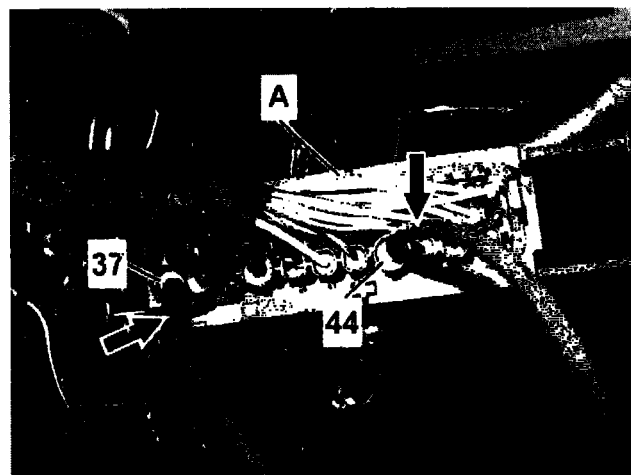

Figure 11
9. Remove SBC ground wires (arrows, Figure 11) from SBC harness connector (A):
- Unpin ground wire connectors (position 37 and 44, Figure 11) using cable release tool and remove from SBC connector housing (A) (special tool nos.: W 000 589 13 99 30 and W 220 589 01 99 50).
10. Insert the new ground wire harness (arrows Figure 11) into the SBC connector housing (A):